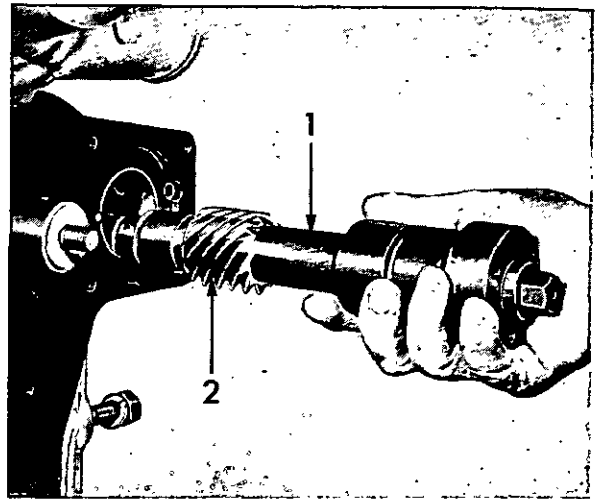

Fig. J.11. Removing Auxiliary Drive Shaft.
4. Withdraw the auxiliary drive shaft (Fig. J.11), with a twisting motion, and the two 180° half thrust washers.